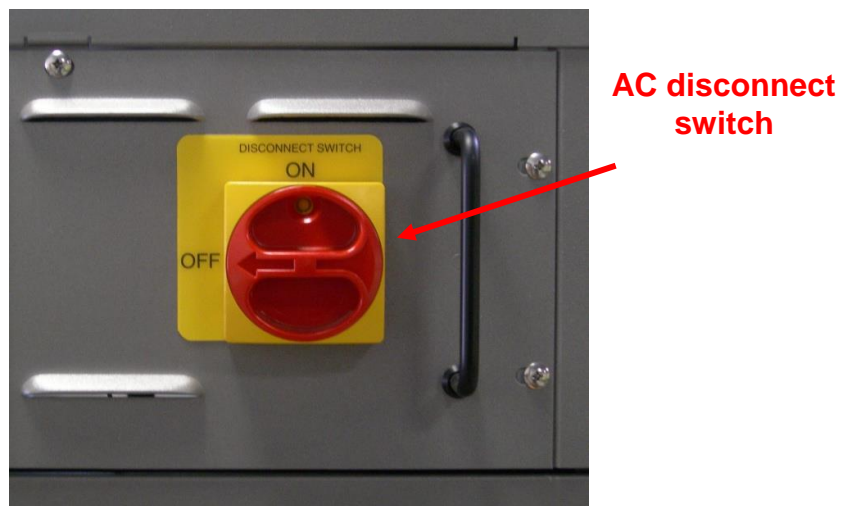

Figure 7: AC disconnect switch
3. Verify that the AC disconnect switch on the XP charger is in the **OFF** position (Figure 7).